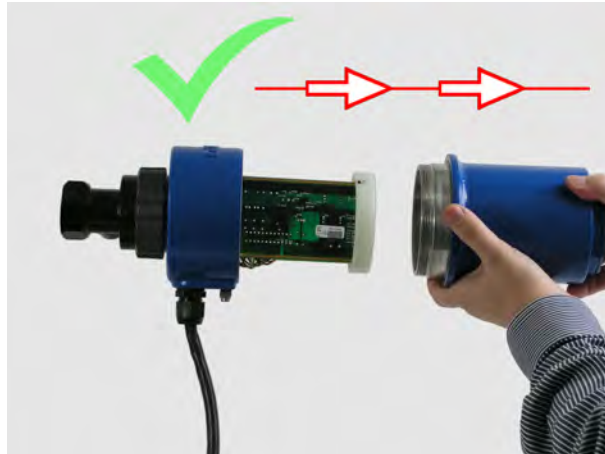

Fig. 13.9: Do not allow the cover to slide along the printed circuit boards
3. Carefully remove the cover backwards in a straight line. The cover must only be swivelled off the axis once the printed circuit boards are completely exposed (see Fig. 13.9).